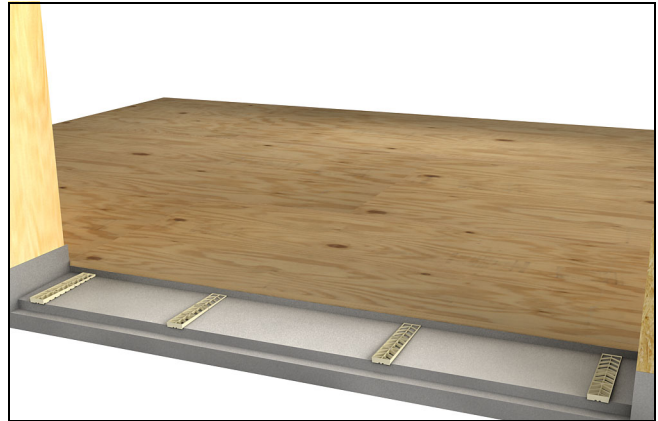

Figure 3
3. Space counter shims 2" (51) from ends and maximum of 10" (254) on center. See figure 3.